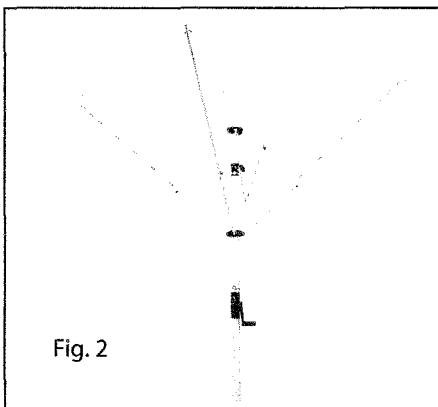
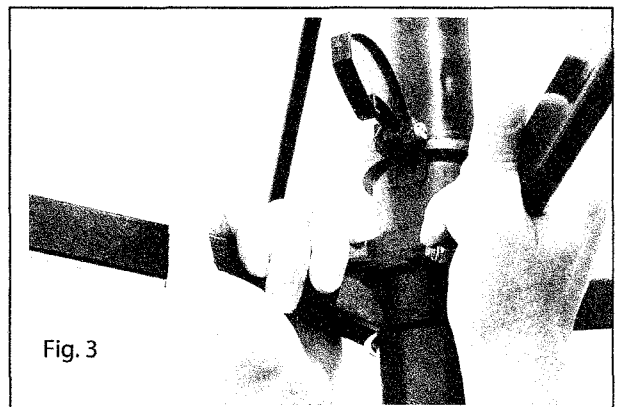

Fig. 2
Fig. 3
- Place the Main Column inside the Ground Socket. Place the Pre-Corded Head Section into the top of the Column, allowing the Cross (which holds the 4 arms in place) to slide down over the Main Column as far as possible. Slowly rotate the Head Section to allow the internal Pin to drop into the locking position. Remove the Line Retainer (do not discard) and any wrapping. Carefully open the arms and check lines are not caught or twisted (Fig.2). If all lines are hanging correctly, push arms upwards until the Cross and black Bush (on the top section) meet. Lock into position by pushing the two sections towards each other until the Clip is locked down into position (Fig. 3). N.B. If the Latch does not lock into position, re-check all lines to ensure they are not wrapped around the end of an arm. Free the line if necessary and then lock into position. Fit Caps to the end of tubular steel Stays and Arms.